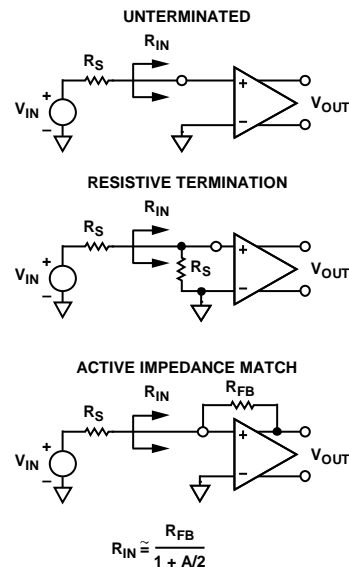
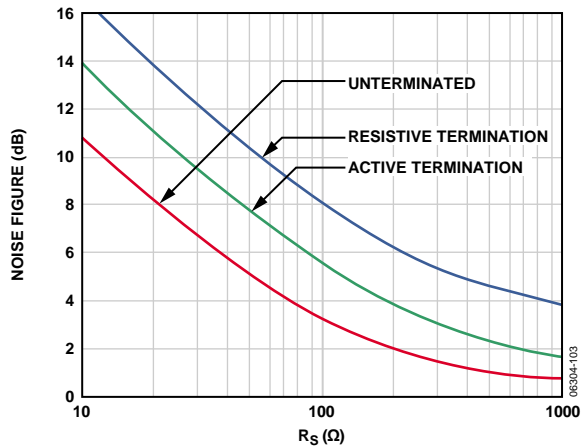
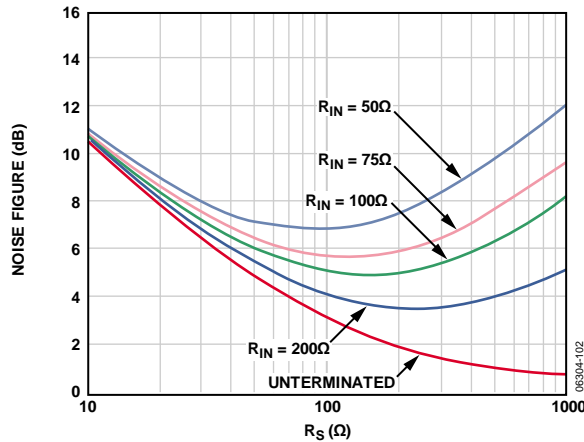

Figure 43. Input Configurations
Figure 44. Noise Figure vs.  $R_S$  for Resistive Termination, Active Termination Matched, and Unterminated Inputs,  $V_{Gain} = 1\text{ V}$ , 15.6 dB LNA Gain
Figure 45. Noise Figure vs.  $R_S$  for Various Fixed Values of  $R_{IN}$ , Active Termination Matched Inputs,  $V_{Gain} = 1\text{ V}$ , 15.6 dB LNA Gain
The short-circuit noise voltage (input-referred noise) is an important limit on system performance. The short-circuit noise voltage for the LNA is 1.2 nV/ $\sqrt{\text{Hz}}$  or 1.4 nV/ $\sqrt{\text{Hz}}$  (at 15.6 dB LNA gain), including the VGA noise. These measurements, which were taken without a feedback resistor, provide the basis for calculating the input noise and noise figure (NF) performance of the configurations shown in Figure 43. Figure 44 and Figure 45 are simulations of noise figure vs.  $R_s$  results using these configurations and an input-referred noise voltage of 4 nV/ $\sqrt{\text{Hz}}$  for the VGA. Underterminated ( $R_{FB} = \infty$ ) operation exhibits the lowest equivalent input noise and noise figure. Figure 45 shows the noise figure vs. source resistance rising at low  $R_s$ —where the LNA voltage noise is large compared with the source noise—and at high  $R_s$  due to the noise contribution from  $R_{FB}$ . The lowest NF is achieved when  $R_s$  matches  $R_{IN}$ .
The primary purpose of input impedance matching is to improve the transient response of the system. With resistive termination, the input noise increases due to the thermal noise of the matching resistor and the increased contribution of the LNA's input voltage noise generator. With active impedance matching, however, the contributions of both are smaller (by a factor of  $1/(1 + \text{LNA Gain})$ ) than they would be for resistive termination. Figure 44 shows the relative noise figure performance. In this graph, the input impedance was swept with  $R_S$  to preserve the match at each point. The noise figures for a source impedance of  $50\ \Omega$  are 7.1 dB, 4.1 dB, and 2.5 dB for the resistive termination, active termination, and unterminated configurations, respectively. The noise figures for  $200\ \Omega$  are 4.6 dB, 2.0 dB, and 1.0 dB, respectively.
Figure 45 shows the noise figure as it relates to  $R_S$  for various values of  $R_{IN}$ , which is helpful for design purposes.